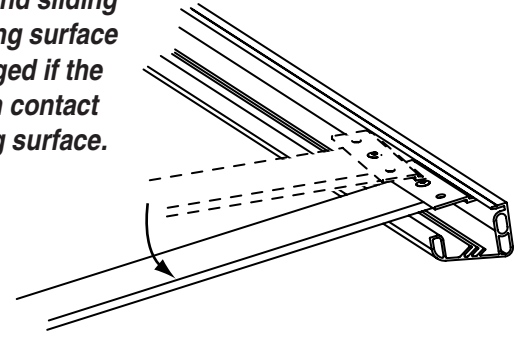

Figure 1
- ① Insert vertical brace into groove on back side of frame, so that tongue fits into slot. Make sure the rivet faces up (away from the screen and frame). Insert one end of the brace into one groove at a slight angle, then rotate other end of brace into groove until the vertical brace is parallel with the frame sides (see Fig. 1). Braces will remain in place; no fasteners are required.